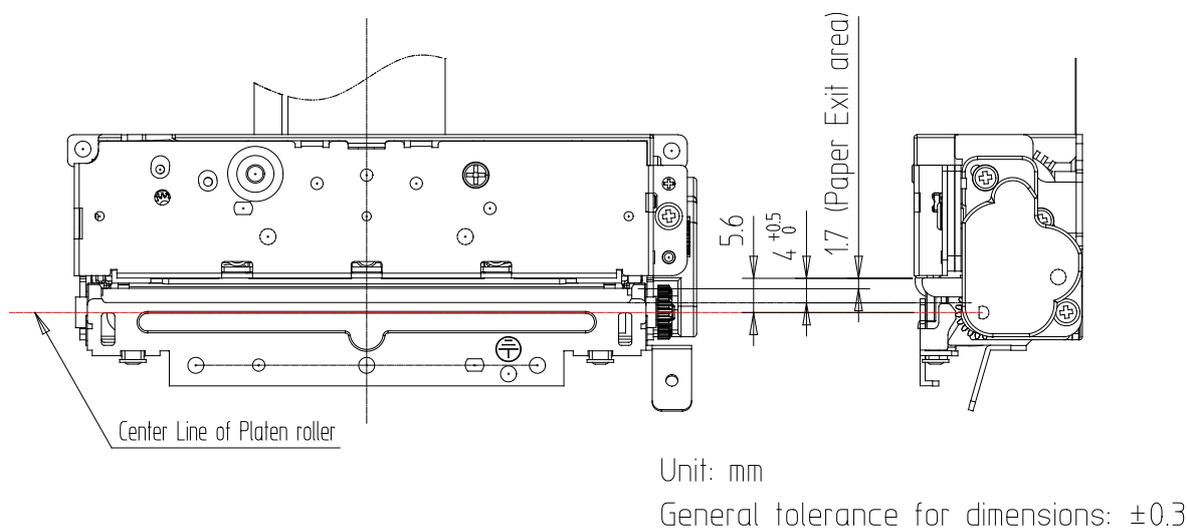

Fig 11-1 Dimensions related to the paper exit
- Secure enough space so that paper exit is free from external force during printing. Among the dimensions shown in Fig 11-1, especially incorrect dimension about  $4 +0.5$ , 0 may cause problems such as shortening the life of cutter or paper jam, therefore design the system with the correct dimensions. Check performance by actually using the device.